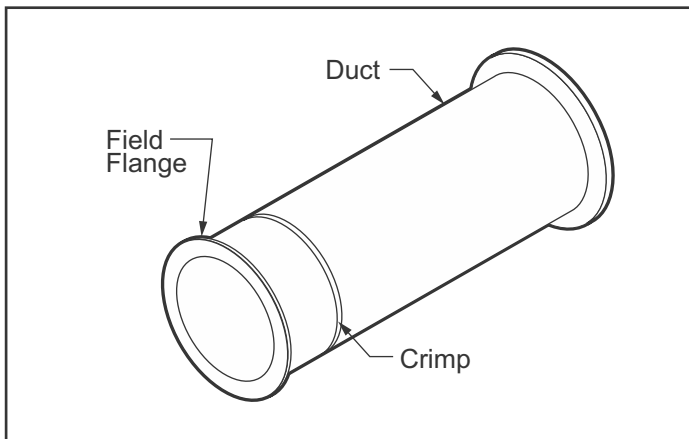

Fig. 24: EZ Field Flange Crimp
7. Crimp Duct: Then rotate the tool around the pipe making a shallow groove. The first pass should be very slight in depth. This operation is to make sure that the roller is following a straight line around the pipe. When a complete crimp impression is made, tighten again with the screw and crank to deepen the crimp. Use multiple passes to form a bead 1/32" (.79) deep minimum. When the crimp is complete, the clamp screw will get very difficult to tighten. When complete, loosen the clamp screw and remove the tool. (Fig. 24)